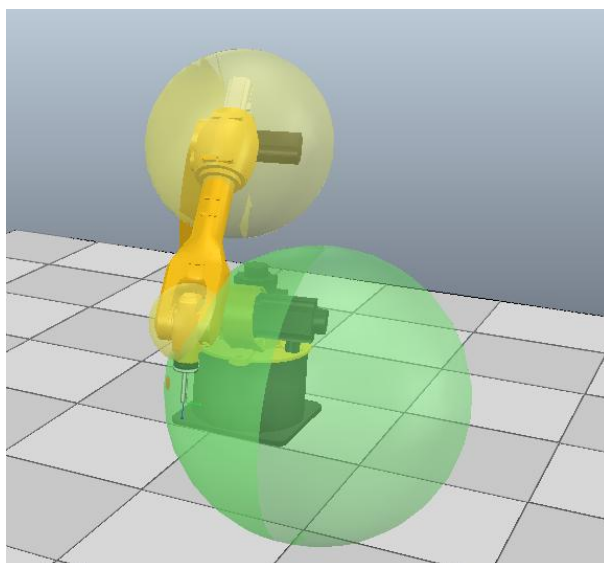

Figure 6-69 Robot's "Tool Envelope" outside working zone
Step5. After clearing the warning message, power on and continue to control the robot to move outside the working zone (see Figure 6-69). When "Tool Envelope" boundary is detected to start out of the working zone, the warning message shown in Figure 6-71 will appear.